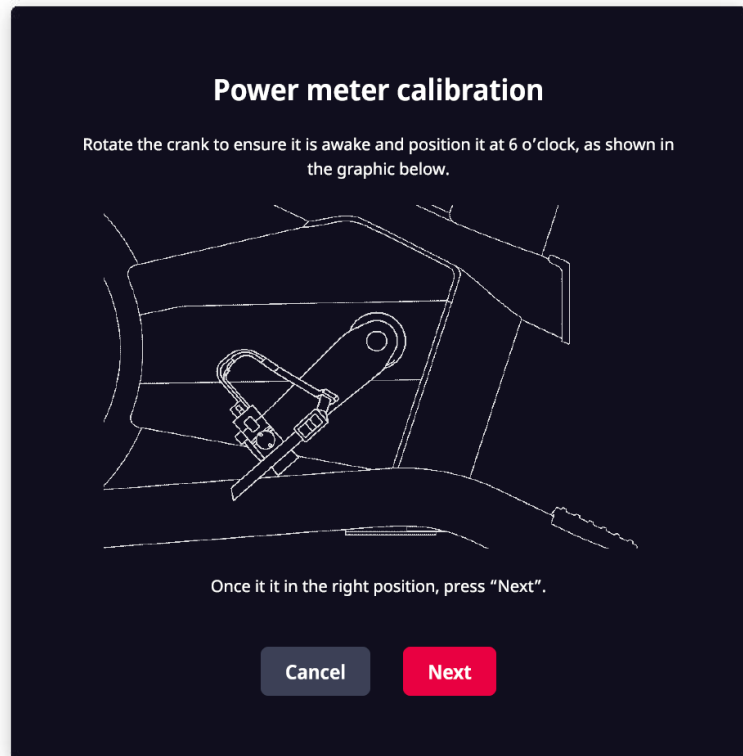

Fig. 84
5. Rotate the crank to ensure it is awake and position it at 6 o'clock, as shown in Fig. 84. Once it is in the right position, Tap **Next**
6. If uploading Screensaver images select the time interval on the upload page as shown in Fig. 84.